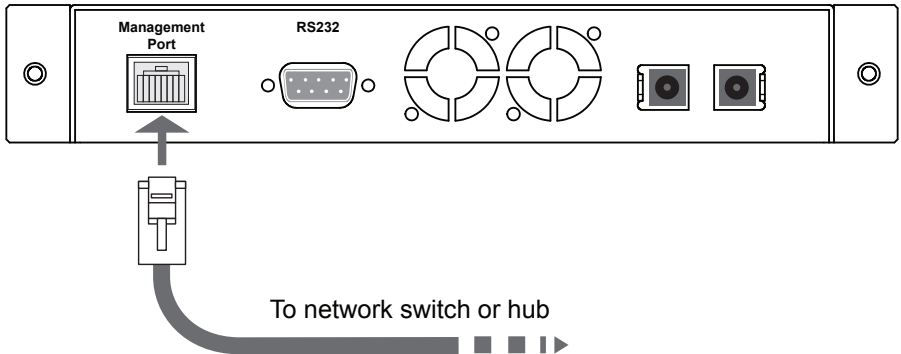

Figure 10: Connecting the Management Port
1. Connect a CAT5 cable to the Management Port as shown in Figure 10.